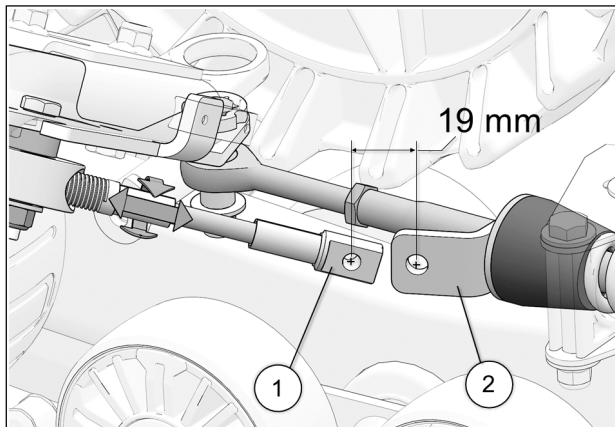

Fig. 27
14. Turn the vehicle's steering wheel to its maximum point of travel on the left. While maintaining pressure on the steering wheel, turn threaded rod to adjust length of cable. See Fig. 27
15. Position cable end hole (1) 19 mm [ $\frac{3}{4}$  in.] short of support plate (2) mounting hole. See Fig. 27